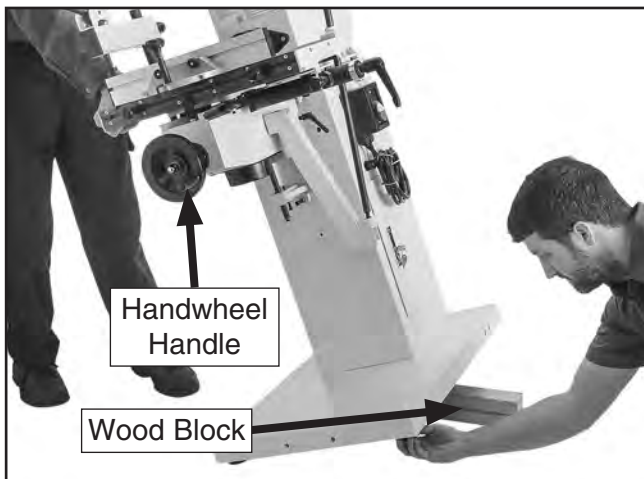

Figure 12. Installing adjustable feet to base.
- Attach handle to table height handwheel (see **Figure 12**) and tighten.
- To install adjustable feet, have an assistant tilt machine and place it on 4 x 4 wood block for safety, as shown in **Figure 12**.
- Attach (2) feet in mounting holes under main cabinet and secure each foot with hex nut (see **Figure 12**). Repeat for opposite side.